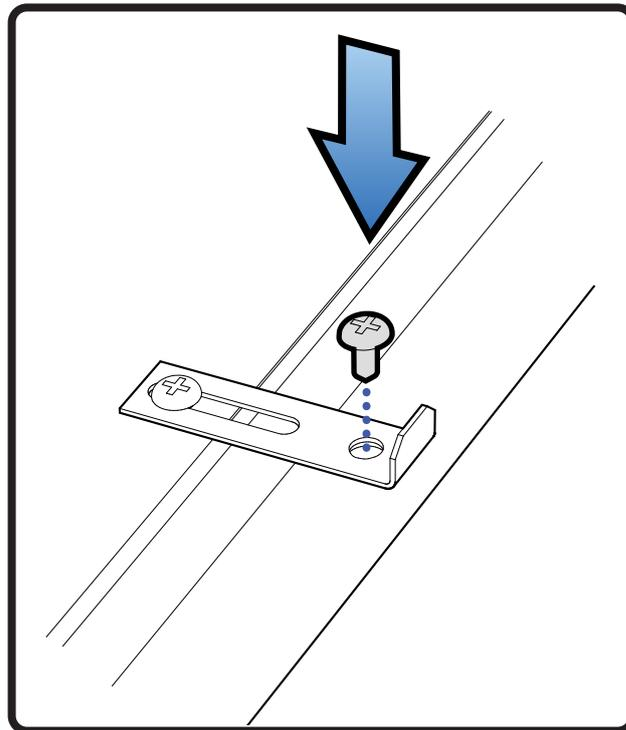

Fig. 12
1. Loosen the screw on the fan door (see Fig. 12).